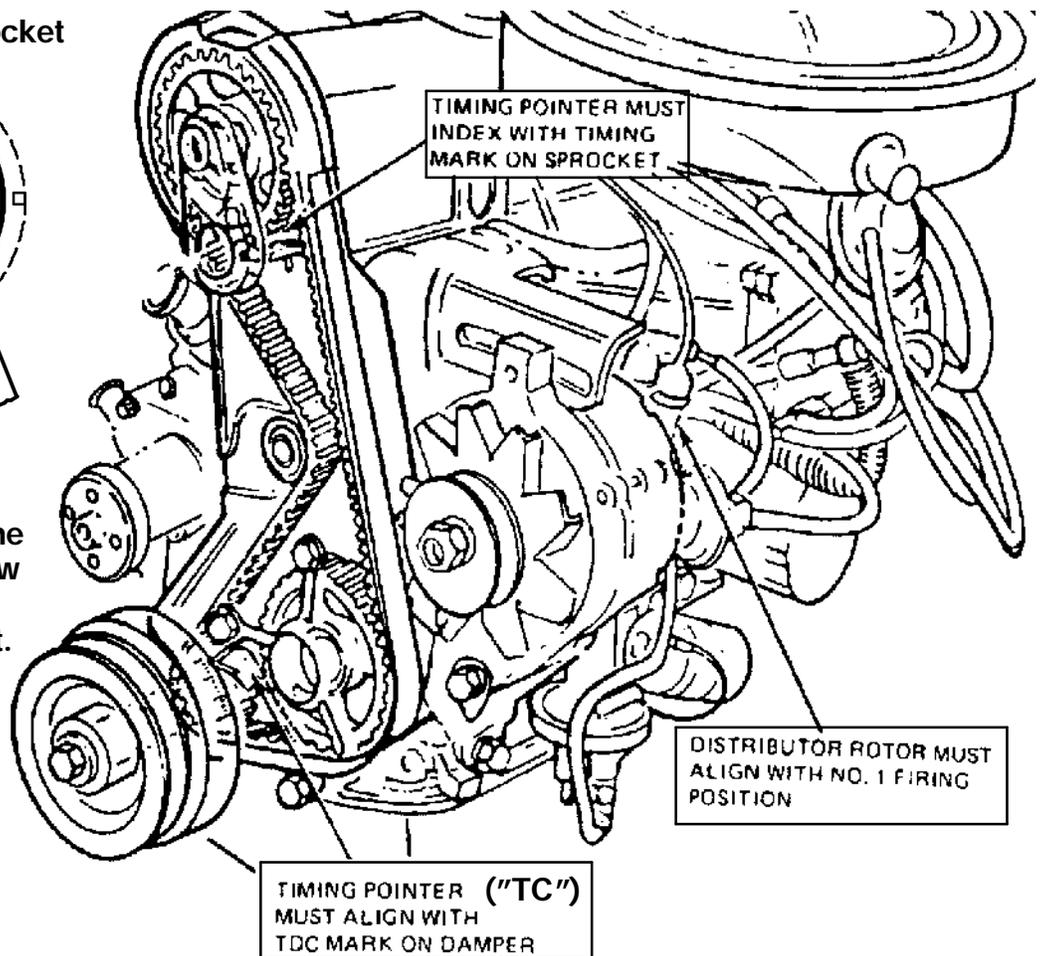

FIG. 3 - Timing Marks
(Refer to Fig. 3)*
2. Before installing a new timing belt, make sure the camshaft sprocket timing mark lines up with the timing pointer on the engine. (Refer to Fig. 3)
4. Install the new timing belt (1) over the crankshaft sprocket and then counterclockwise over the the auxiliary and camshaft sprockets. Align the belt **fore** and **aft** on each sprocket. (Refer to Fig. 3)
6. Rotate the crankshaft two complete turns in normal rotation to remove the slack from the belt. (Refer to Fig. 3)
7. Re-check the alignment of the timing marks. (Refer to Fig. 3)
14. Reconnect the battery cables. Start the engine and check the timing. With the governor unhooked, the vacuum advance hose removed and plugged, and the engine running at 800rpm's or less, the timing should be 10 degrees BTDC. Adjust if necessary. (Refer to Fig. 3)